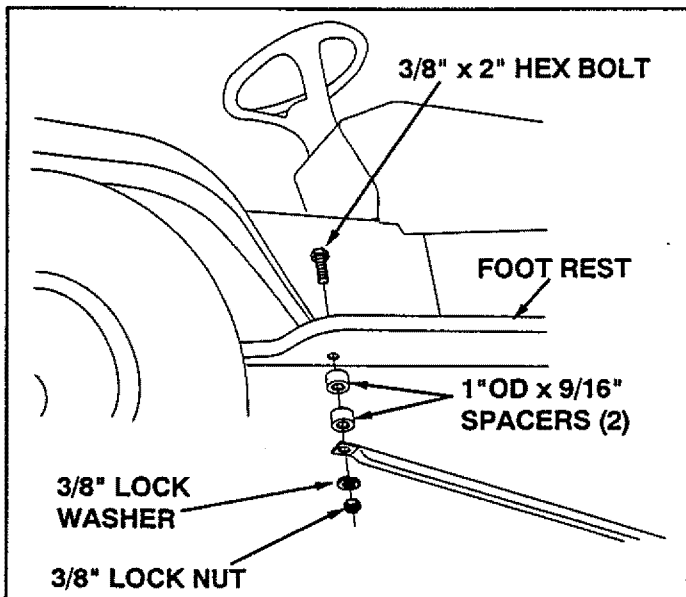

FIGURE 16 (Right Hand Side View)
- Attach the R.H. brace tube to the tractor frame using a 3/8" x 2" hex bolt, two spacers, a lockwasher and a locknut as shown in figure 16. Use the empty hole located to the rear and to the inside of the foot rest. Hole is concealed by the rubber foot pad. Repeat for left side. **Do not tighten.** See figure 16.